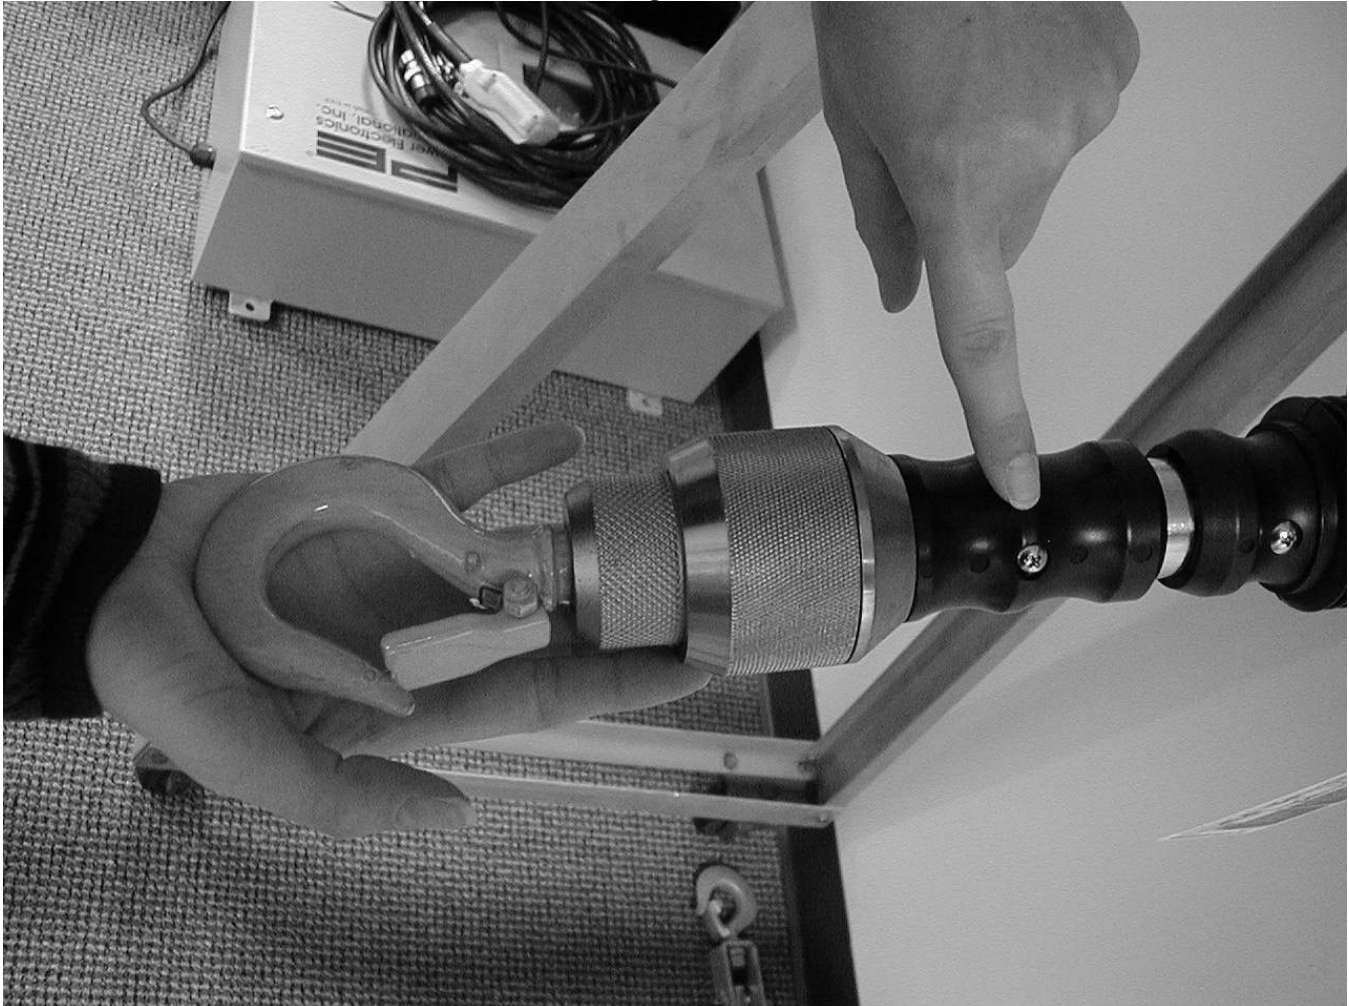

Figure 3
5.5 Secure the load chain to the cylinder switch with a chain pin (5) slotted nut (6) and cotter pin provided in the kit. Put slotted nut (6) on the right side of the nameplate. (ref. Figure 3)